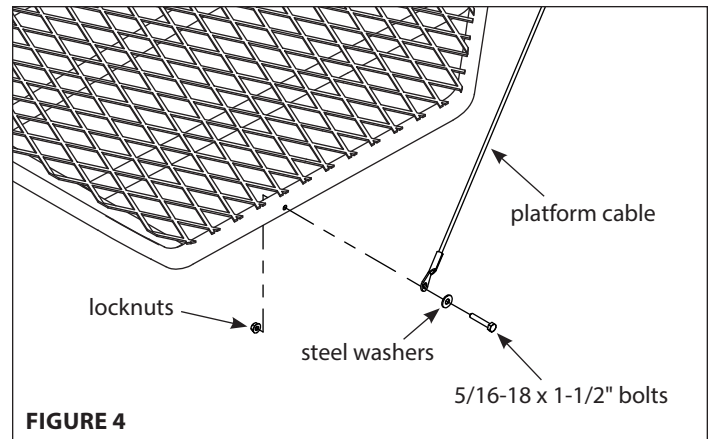

FIGURE 4
2. Attach cable (48212) ends to the platform (CXR12) using (2) provided 5/16-18 x 1-1/2" bolts, locknuts and steel washers. **SEE FIGURE 4. You must now tighten all nut & bolt assemblies securely. Be sure not to over tighten or crush tubing when tightening!**